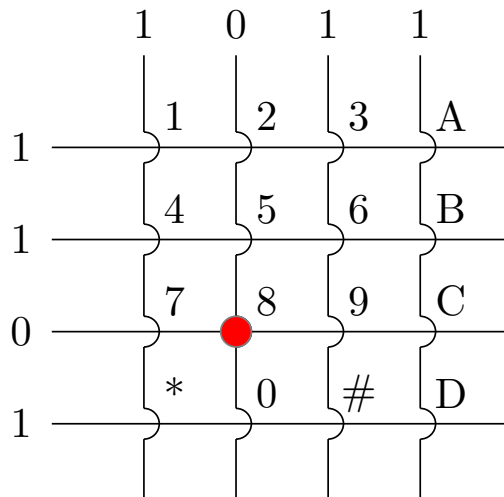

Figure 3: Keypad connection schema with key 8 pressed
Consider the example in Figure 3, where the key 8 is pressed. Then the value of the registers will be `REG_KEY_DATA_1 = 253` and `REG_KEY_DATA_2 = 251`.